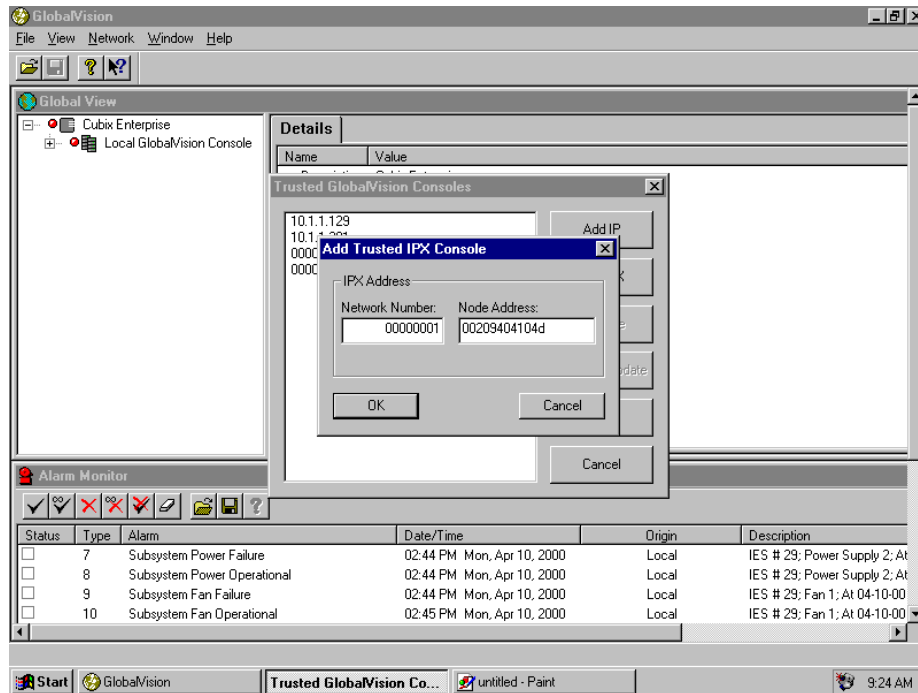

Figure 87 – Add Trusted IPX Console screen (sample)
5. If you wish to add an IPX address, click on **Add IPX**. An Add Trusted IPX Consoles screen will appear. See Figure 87. Note: Only one IPX console can be added at a time.